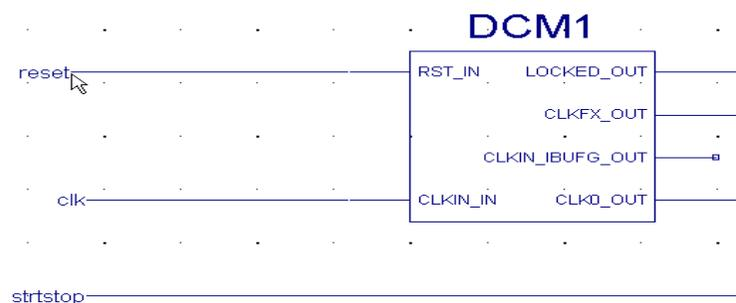

Figure 3-40: Labeled Nets with I/O Markers
3. Place the name on the leftmost end of the net as illustrated in Figure 3-40.